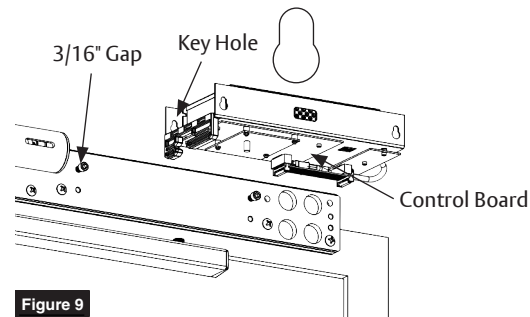

Figure 9
- Insert two (2) screws. Leave 3/16" gap between head of screw and backplate. (Figure 9)
- Slide power supply key holes over screws allowing narrow slots of key holes to rest on screws. (Figure 9)
NOTE: Narrow slots of key holes are always at top and control board is always at bottom for proper installation. (Figure 9)